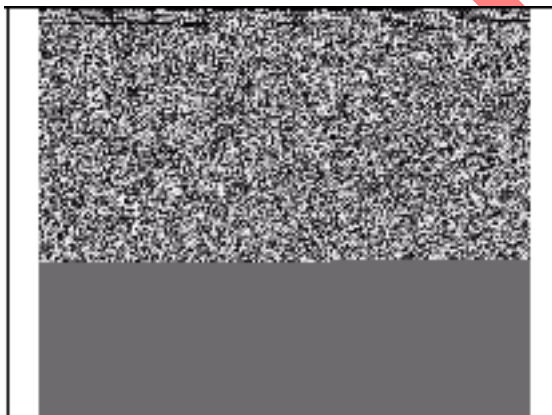

Fig. 147
Place gasket (U) on carburetor body ([V] Fig. 147).